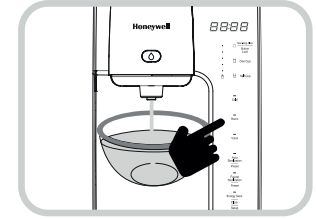

Fig. 2
- Place a cup under the Faucet, press the Room water, and then press the Out Flow button for about five (5) seconds. (Fig. 2) (Fig. 3).